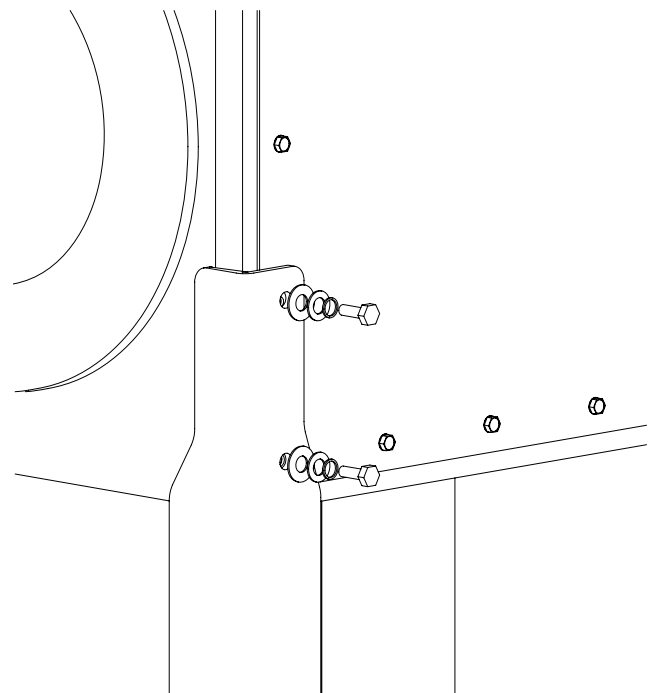

FIGURE 2
3. Bolt on the four legs. The two lower bolts at each corner will be removed and used to attach each leg (see Figure 2).